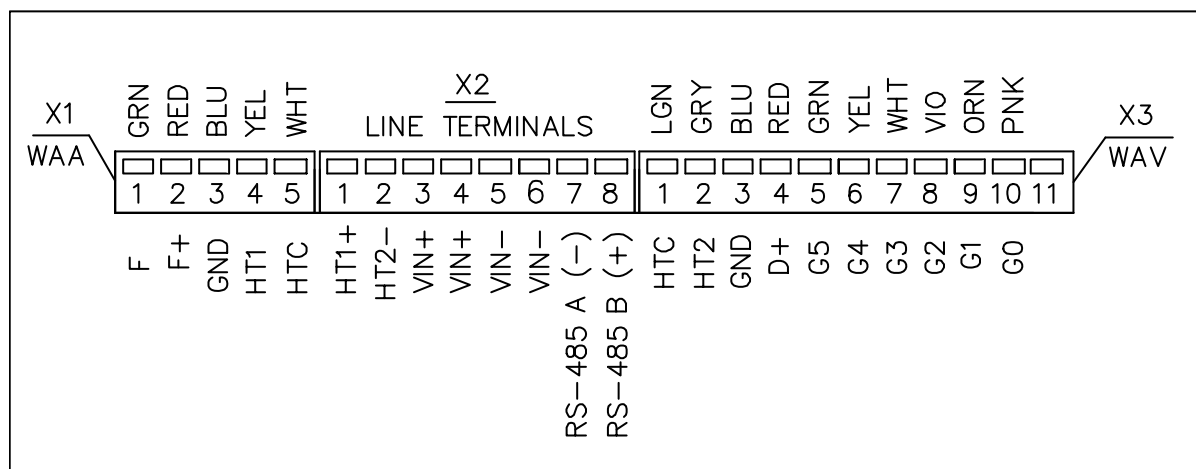
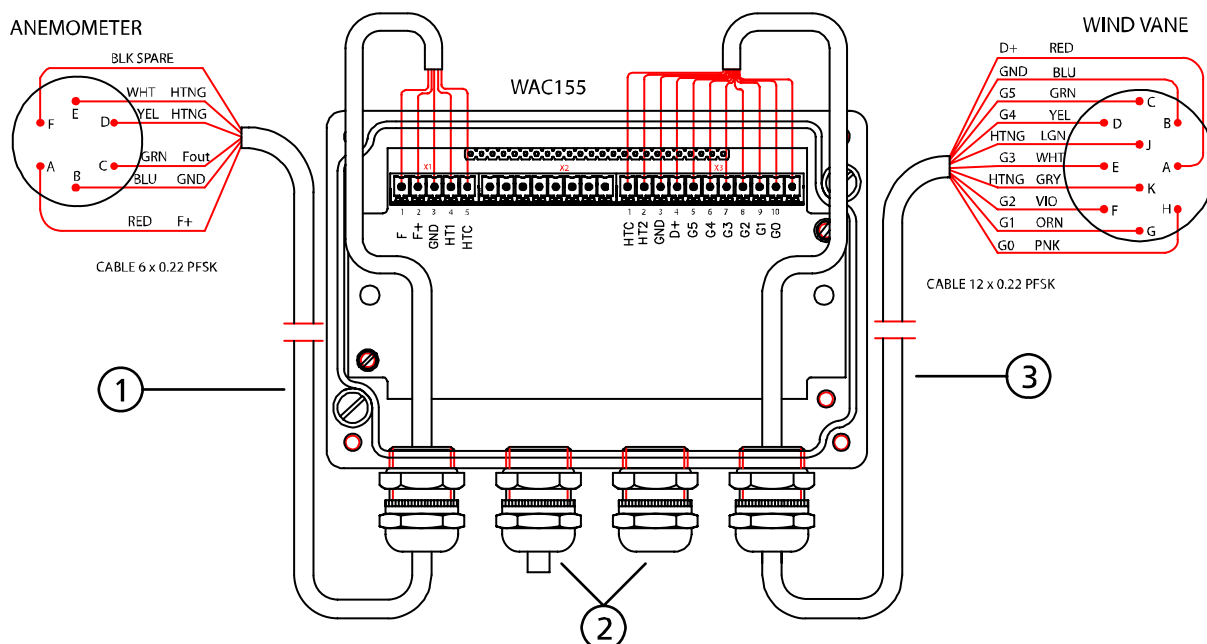
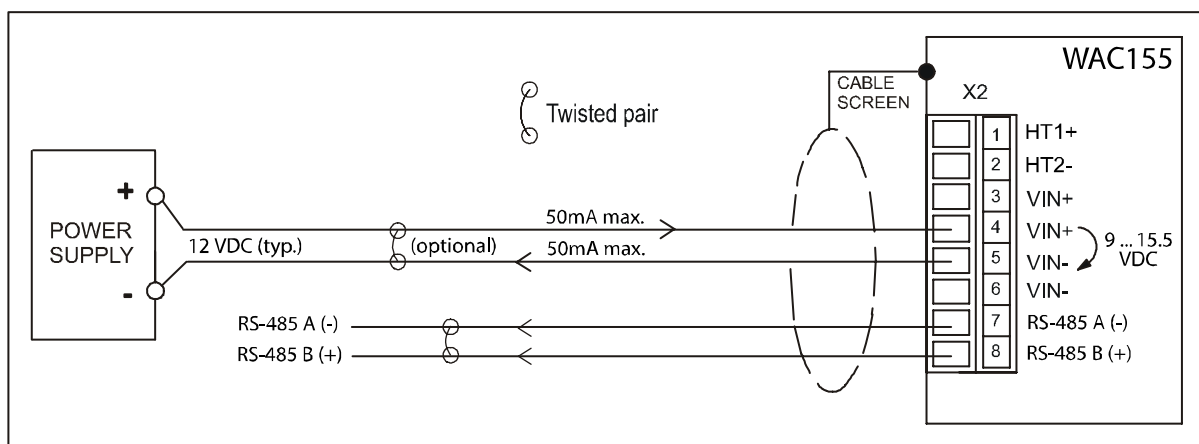

Figure 7 I/O Connectors
Figure 8 **Wiring of the Sensors**
Figure 9 Typical System with 12 VDC Power Supply
4. Connect the wires to the X2 removable screw terminal block according to Figure 8 on page 20 and Figure 9 on page 21. Tighten the output cable gland(s).
The WAC155 transmitter has three I/O connectors as shown in Figure 7 on page 18. For the location of the connectors and the routing of the cables through the cable glands, refer to Figure 8 on page 20.
The following numbers refer to Figure 7 on page 18.
The following numbers refer to Figure 8 on page 20.